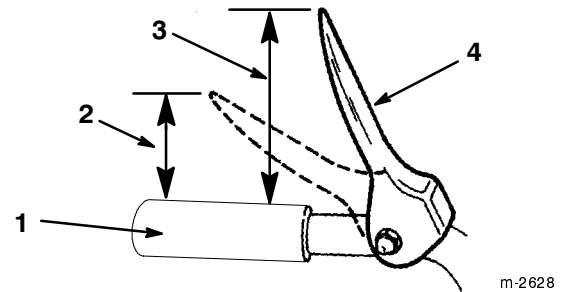

Figure 21
19. Check the distance between the top of the handgrip and the bottom of the auger/impeller drive control lever. The distance should be approximately four inches (10.2 cm) (Fig. 21).
Note: The amount of force to compress the lever increases noticeably when you remove the slack from the drive belt (approximately one-half of the lever movement). The adjustment is correct when the force **begins** to increase and the distance between the top of the handgrip and the bottom of the auger/impeller drive control lever is two inches (5 cm) (Fig. 21).